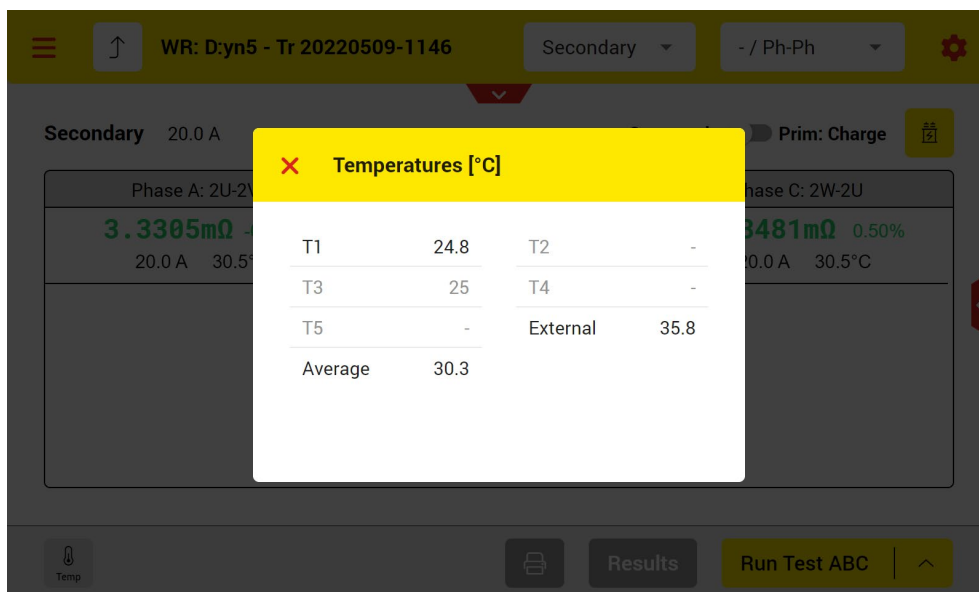

Figure 58: Actual Temperature values
- 16 To see the actual measurement value of each temperature measurement channel (See Figure 58)
In the live temperatures window (Figure 58) which can be opened from the bottom-left corner of the measuring screen, you can see the actual temperature values. Here T1 is plugged in and also activated in the setting. T3 is not activated but plugged in. If a temperature channel is activated but not plugged in, the mini-ATOS will display an error message after starting the measurement.